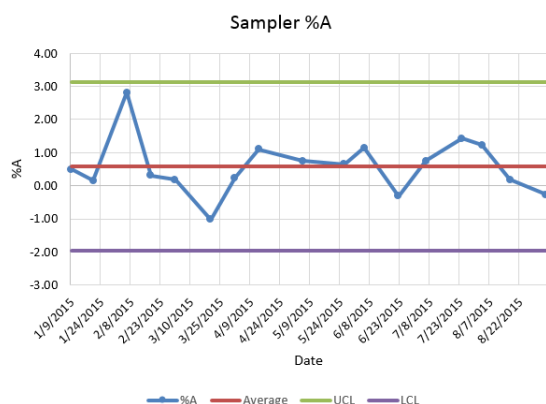

Figure 23. Example Electronic Logbook Control Chart
- A leak check device or flow audit adapter for performing leak checks (Figure 23).